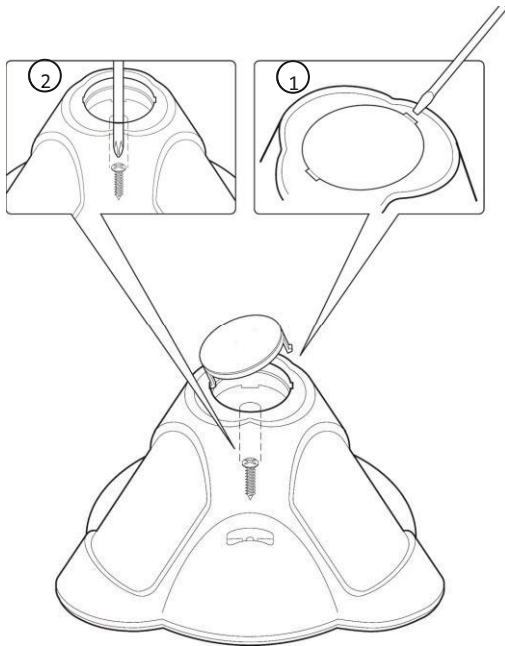

FIGURE 1
To open the detector (Figure 1), remove the cover by inserting a screwdriver (1) in the recess between the detector's protection cap and the cover. The cover will remain attached to the base of the detector.